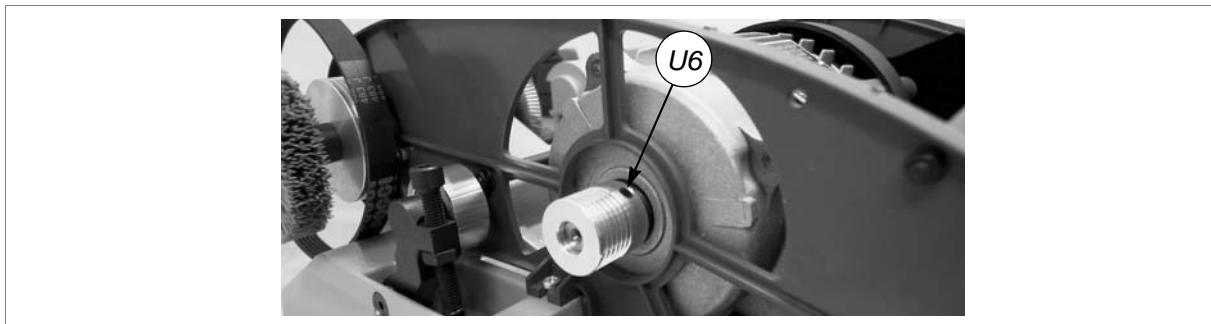

Fig. 37
- 10) Loosen the 4 fixing screws on the motor (fig.37) and remove, paying attention to the wire.
- 11) Loosen the grub screw (U6) on the motor pulley (fig.37). Remove the pulley and fit to the new motor. Secure by tightening the grub screw (U6).